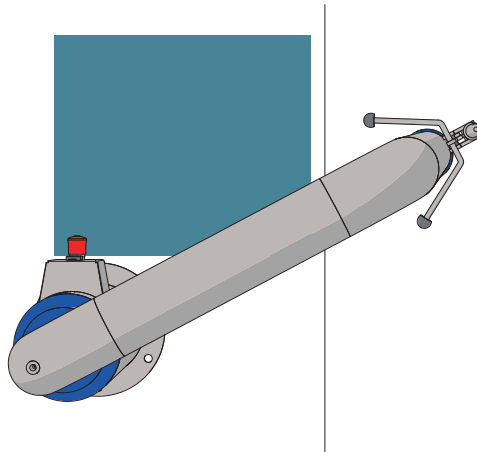

Figure 5 - Positioning
2. Position yourself next to the pool lift (see the blue square in figure 5).